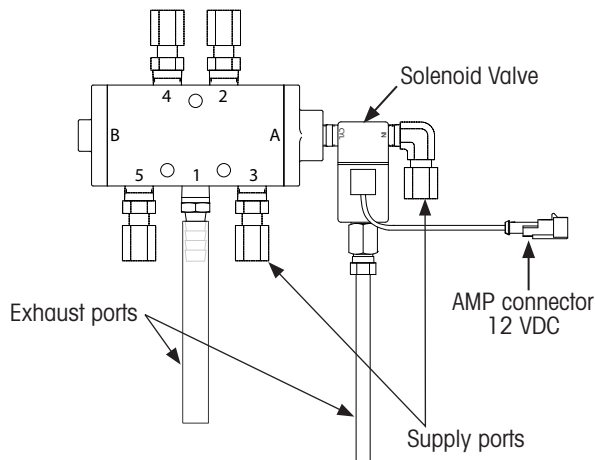
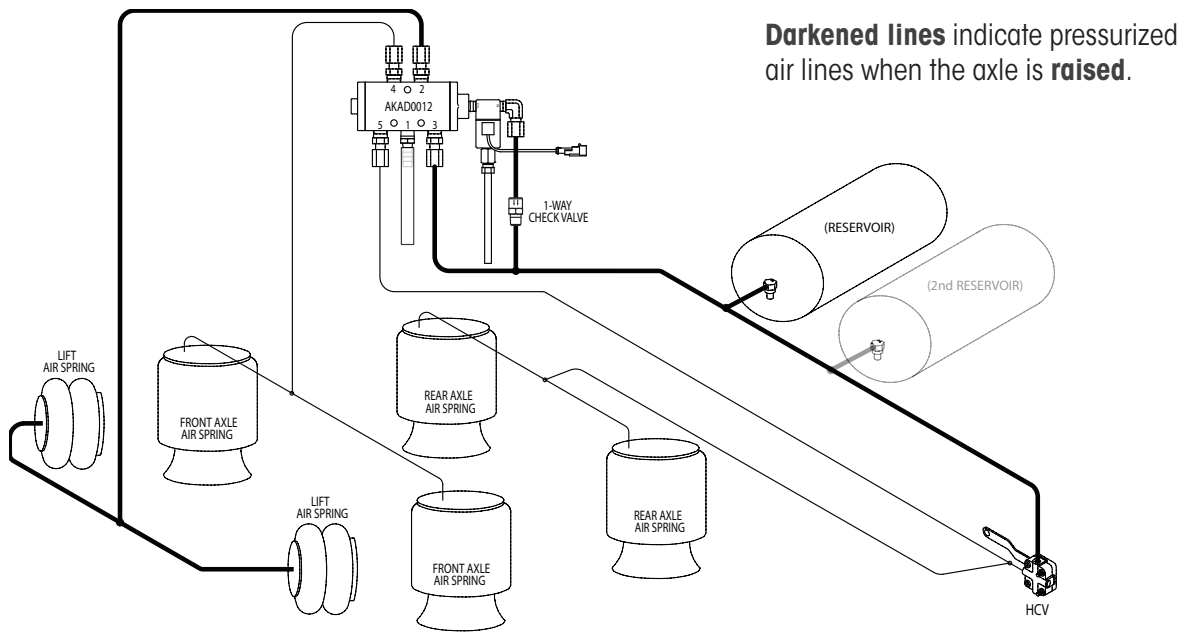
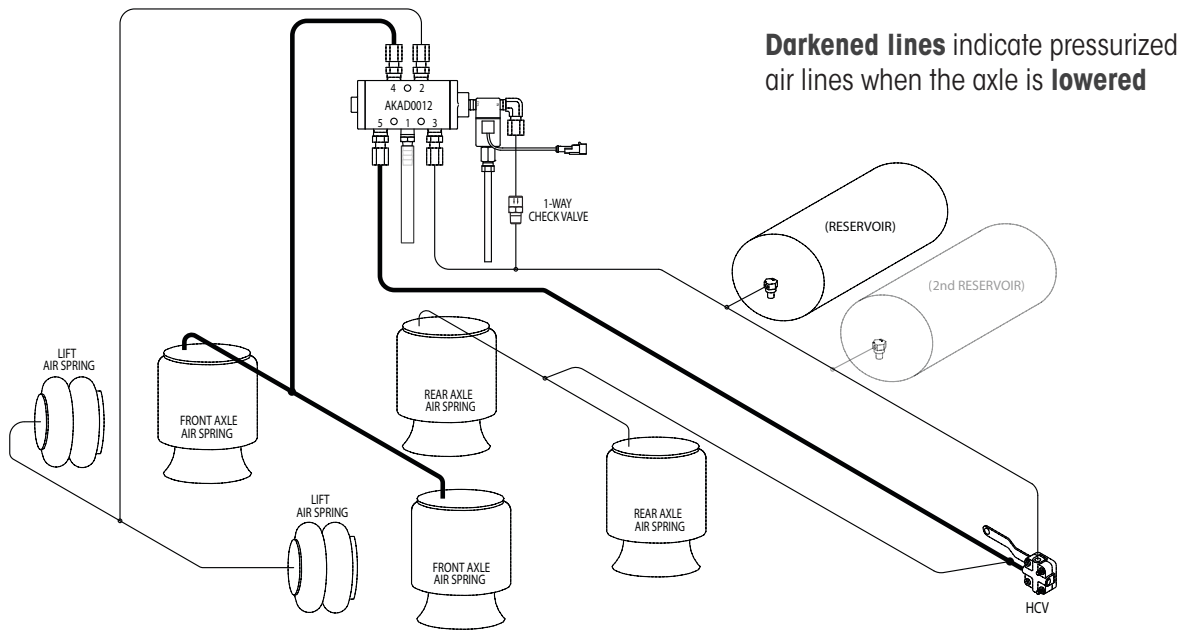

Figure 1: AKAD0012 lift valve assembly
Figure 2: Tandem plumbing diagram for raised axle.
Figure 3: Tandem plumbing diagram for lowered axle.
- B. AKAD0012 **valve orientation** is as shown in Figure 1, Figure 2 and Figure 3 with the exhaust ports pointing downward.
- E. The AKAD0012 **solenoid CYL port is facing the valve** (Figure 1).